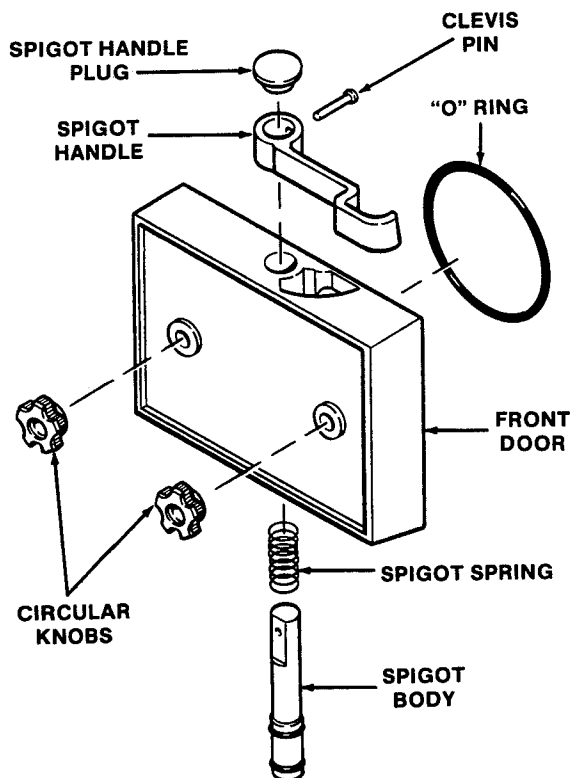

Figure 27. Exploded View of Front Door
- H. Install the spigot body with "O" Rings and spring into the front door from the bottom (Fig. 27). Push straight up until the spigot is in place. Place the spigot handle on top of the spigot and insert clevis pin.